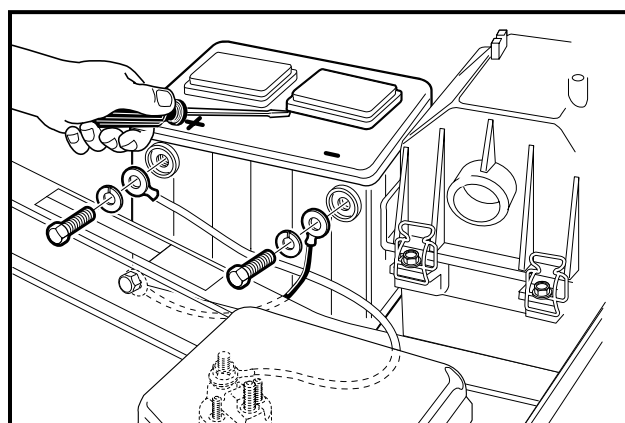

Figure 29 Battery
The battery in a Club Car vehicle is a 12-volt, low-maintenance battery that requires infrequent checks (Figure 29). Electrolyte level should be checked semiannually.
4. Use a flat blade screwdriver, and carefully remove the battery cell caps from the battery (Figure 29). **See following WARNING.**